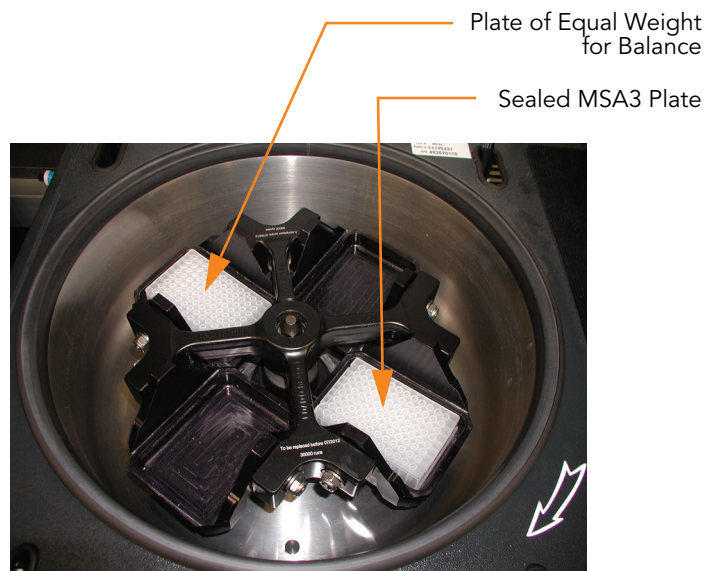

Figure 125 Balancing MSA3 Plate in Centrifuge
14. Place the sealed MSA3 plate in the centrifuge opposite another plate of equal weight (Figure 125).